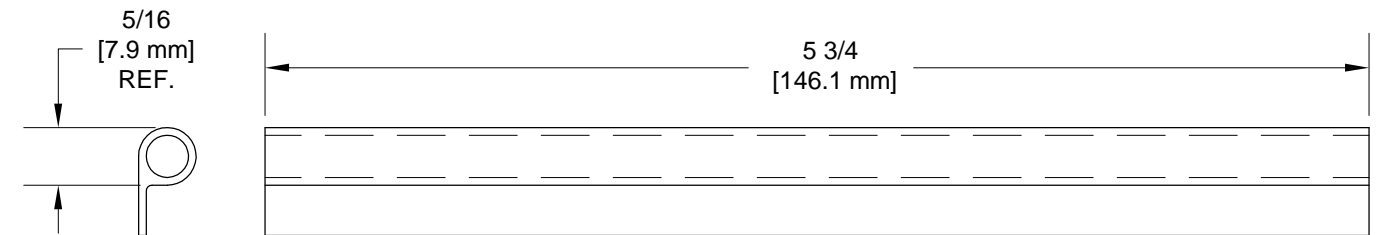

FIGURE 3: FABRICATE P SEAL
Step 2: Fabricate two FF-00079 P Seals from SEAL-00008 by cutting to the length shown in Figure 3.